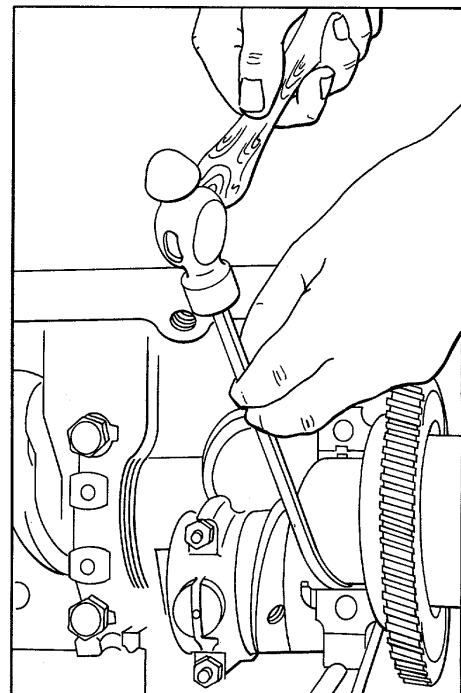

Figure 3. Removing Upper Rear Main Bearing Shell
b. Remove the rear main bearing upper shell by tapping on the edge of the bearing with a small curved rod, revolving the crankshaft at the same time to roll the bearing shell out as shown in Fig. 3.